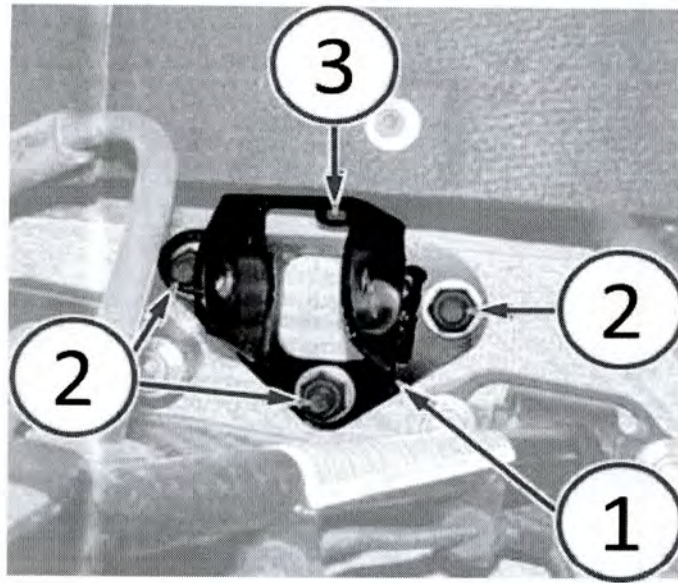

Fig. 10 Install Shock Absorber Bracket Using New Fasteners
- 17. Install the shock absorber bracket (1) to the vehicle structure (Fig. 10).
- 18. Install by hand but do not fully tighten the **NEW** M10 nuts (2) (Fig. 10).
- 19. Apply MOPAR lock & seal adhesive or equivalent to the **NEW** M8 bolt threads and install by hand but do not fully tighten the **NEW** M8 bolt (3) (Fig. 10).
- 20. Tighten the M10 nuts (2) to 55 N·m (41 ft. lbs.) + 45 degrees (Fig. 10).
- 21. Tighten the M8 bolt (3) to 20 N·m (15 ft. lbs.) (Fig. 10).